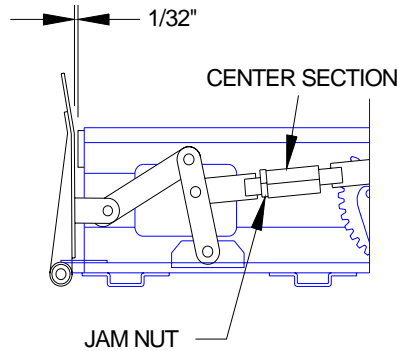

FIGURE 4-6: CLOSED ROLLSTOP ADJUSTMENT
- 6) Refer to **Figure 4-6**. Loosen jam-nut and adjust the link length by turning the center section. Adjust link so that rollstop closes to within 1/32" of rubber bumper (that rollstop contacts). Rotating the center section counterclockwise (viewed from rollstop) shortens the link, and turning it clockwise lengthens it.